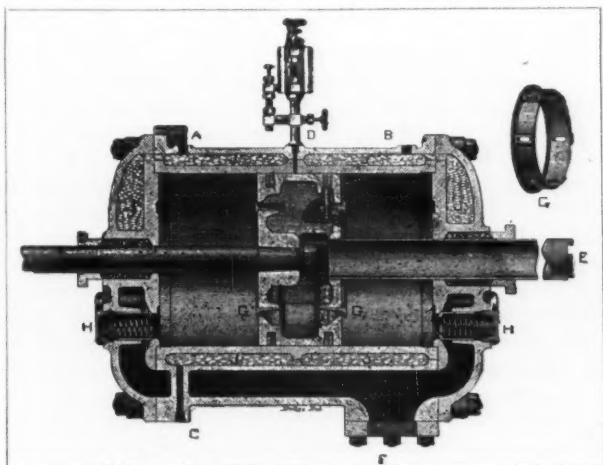

FIG. 1.
Fig. 1 shows the jacket (J) applied both on head and sides of a cylinder of the Ingersoll-Sergeant Compressor.